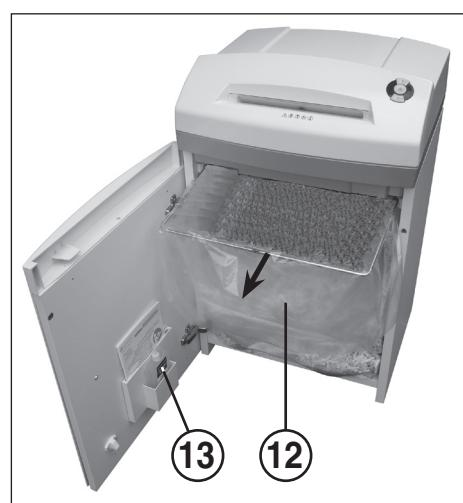

fig. 4
**12 = Paper collection bag (Fig. 4)**
**13 = Oil reservoir (Fig. 4)**
**EMPTYING THE PAPER COLLECTION BAG (Fig. 4):**
Open the door. The control display  (8) comes on and the reverse button (4) LED display  as well as the control display  (7) **flashes**. Remove the oil reservoir (13) (Fig. 4) from the holder in the door and close the door again.